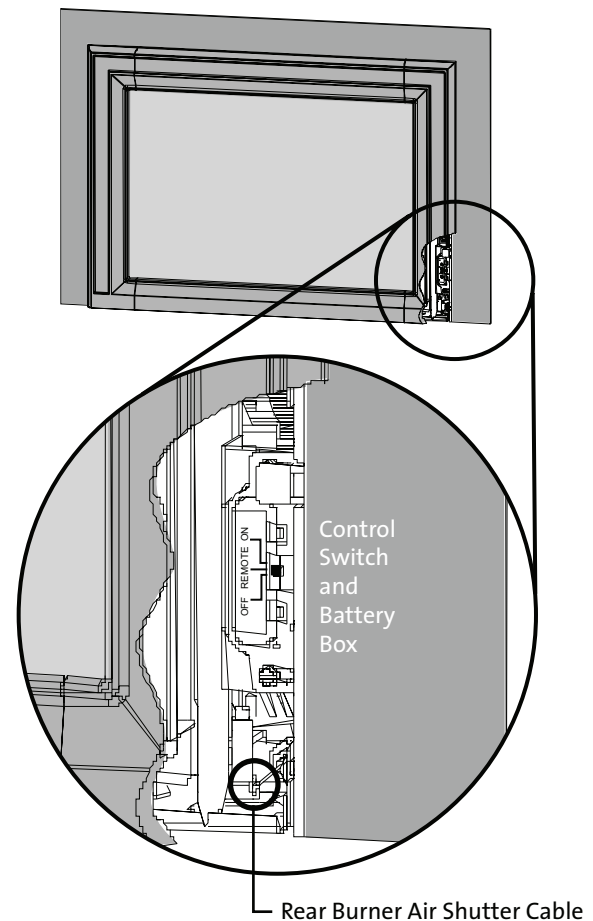
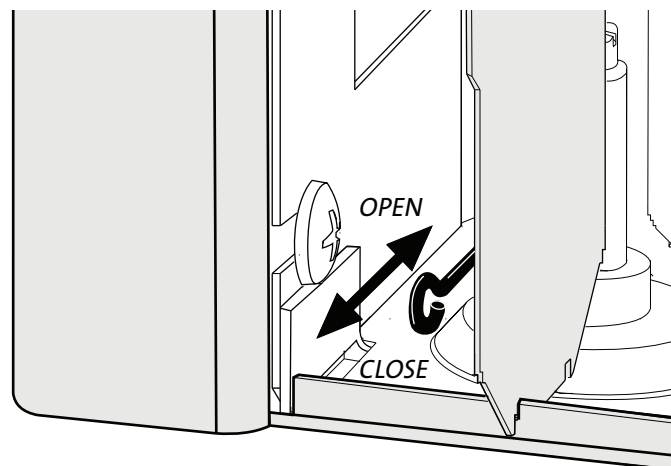

Figure 54. Fireplace Control Switch / Battery Box location.
Figure 55. Front Burner Air Shutter Cable location - Left-side Compartment.
- Battery Installation:** In the event of a power failure, install the four, 1.5v AA batteries into the IFC Back-up battery box in the right side firebox compartment. See Fig. 54. Do not leave them in the battery box permanently as the box will corrode.
The volume of air supplied to the front and rear burners is regulated by individual air shutters which are controlled in turn by cables located at the each side of the firebox. The right cable controls the Rear Burner air (fig. 54) and the left cable controls the Front Burner air (fig. 55).